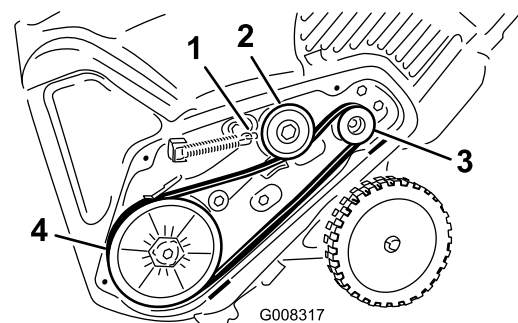

Figure 25
- Install the new drive belt, routing it as shown in (Figure 25).
8. Install the brake spring onto the idler arm (Figure 25).